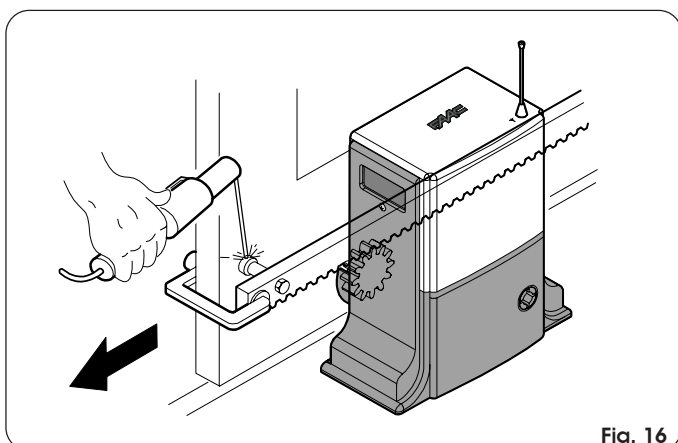

Fig. 16
- 3) Lay the first piece of rack at appropriate level on the pinion and weld the threaded pawl on the gate as shown in Fig. 16.